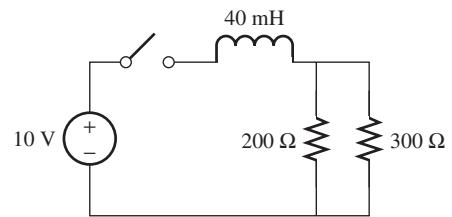

FIGURE P5.23 Circuit for Problem 5.23.
- 5.23** (B) Find the current flow through both resistor at $t(0)$ and $t(\infty)$ in the circuit shown in Figure P5.23. Assume that the switch closed at $t = 0$.